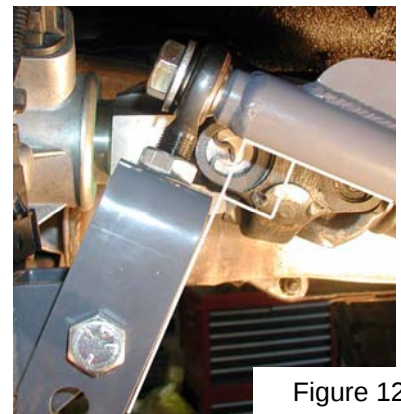

Figure 12
**Step 10: Adjust Link-to-Boom Angle.** On link-coil spring vehicles, the path that the rear axle travels up-down also generates a fore-aft motion (i.e. wheelbase change) that is proportional to the length of the LCAs. That is, short (stock)-length arms swing the axle in a smaller arc (and therefore cause much more wheelbase change) than a long-armed vehicles. The Stinger must be adjusted to allow the resulting wheelbase change throughout the axle's up-down range without 'over-angling' the rod-end at the front of the boom. On long-armed vehicles, this typically means that you want the link bracket to be at a right angle ( $90^\circ$ ) to the boom's tube when the vehicle is sitting at its normal height as shown in **figure 12**. Short-armed vehicles can usually also run at close to  $90^\circ$ , but if you are using very long shocks that allow too much droop travel, the static angle of the rod-end may need to be biased to more than  $90^\circ$  to avoid binding it at full droop. *You should cycle your rear suspension through its full range of travel while watching the rod-end to determine if adjustment of the static angle is needed.* If you need to make adjustments to get the correct link/boom angle for your installation, there are three ways to change it – some of which may not be viable in your case: